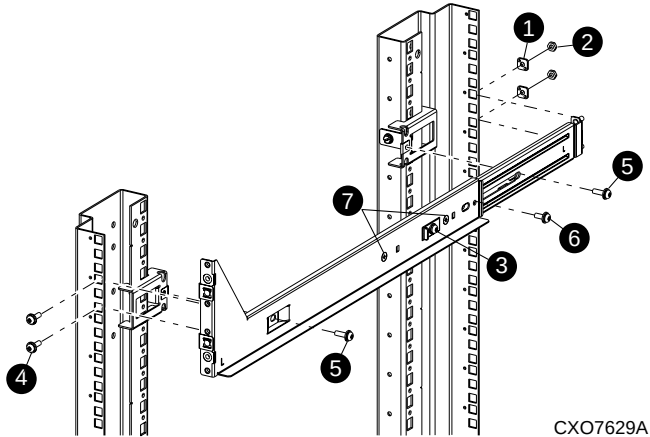

Figure 5: Mounting bracket installation
4. Position the left mounting bracket on the front and rear side flange brackets. See Figure 5. Align the middle two holes of the mounting bracket-front with the rail-front holes pencil-marked “F” and insert mounting bracket’s rear studs completely through the rail-rear holes pencil marked “R.”
5. Secure the left mounting bracket stud to the rail-rear using two square washers ❶ and two KEP nuts ❷. See Figure 5.
- Secure the left mounting bracket to the rail-front using two pan head SEMS screws ❹ (10-32 x 5/8 in). See Figure 5.
- Secure the left mounting bracket to the two side flange brackets using two pan head SEMS screws ❺ (10-32 x 5/8 in). See Figure 5.
- Install a pan head SEMS screw ❻ (10-32 x 1/2 in) at the rear of the left mounting bracket. See Figure 5.
- Fully tighten two outer screws ❼ located on each side of mounting bracket’s stop bracket. See Figure 5.